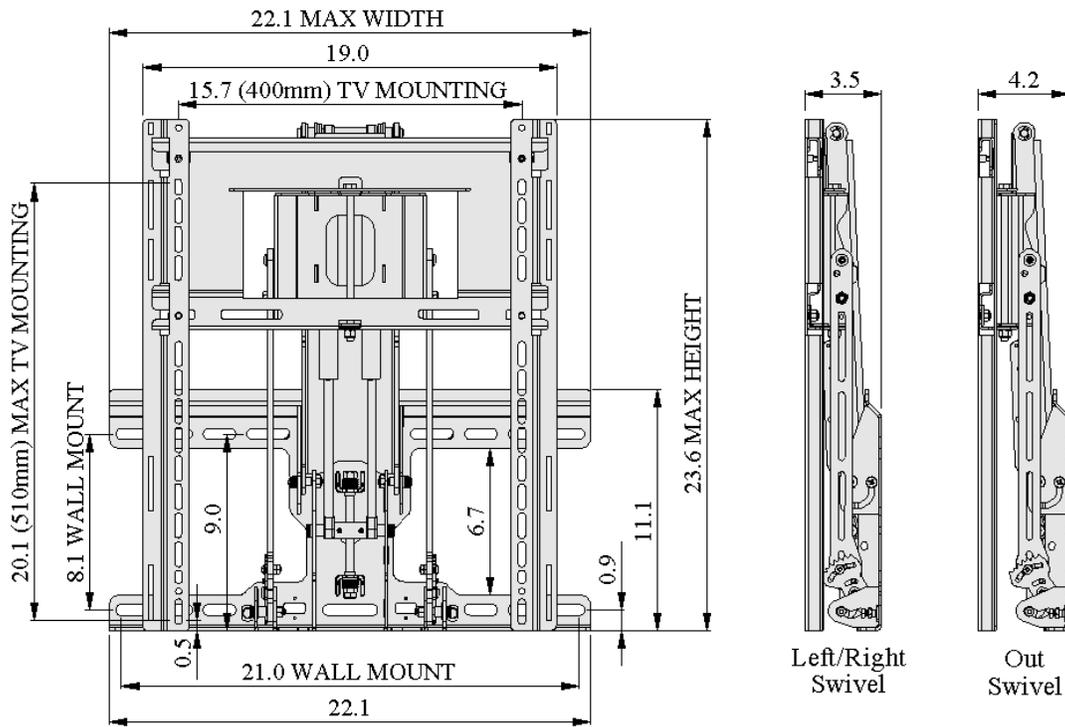

Figure 1, Mount Overall Size, Television Mounting Hole Pattern Range, Wall Mounting Hole Pattern Range
- **Note for smaller televisions;** the mount may be wider or taller than the television. If this is the case then the mount may be visible in the top position. See Figure 1
- Allowable television mounting pattern: 6.7in (170mm) to 15.7in (400mm) wide, up to 20.1in (510mm) high. Works with all VESA patterns in that range, See Figure 1
- Product Dimensions: 22.1 x 23.6 x 3.5 to 4.2 inches. See Figure 1
Before attaching the Swiveling Hook Plate you need to decide which swivel setting is best for you. There are 3 different swivel settings which are shown in Figure 4. Each setting has its own advantages. The Center Pivot gives you a lot of travel in each direction but has the thickest profile (See Figure 1 for Profile Thicknesses). The Left and Right Pivots are the lowest profile and can swing the farthest either to the right or the left, but not both.